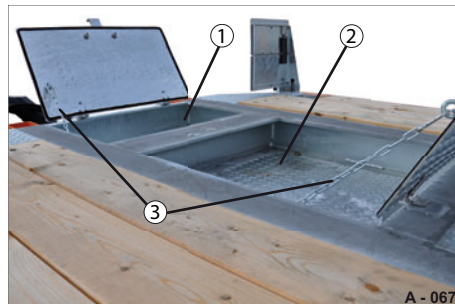

Fig. 66 Storage compartments, two-fold, open
- Pull the cover upwards completely. The limit chain (Fig. 66/3) holds the lid open.
Make sure that the limit chain (Fig. 66/3) is not in the closing edge.